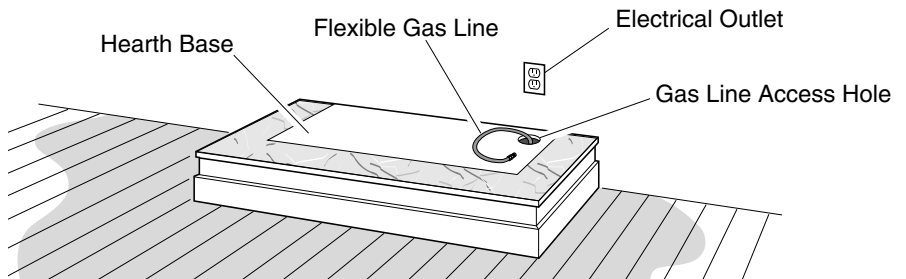

Figure 9 - Placing Hearth Base Accessory Against Wall
2. When installing blower, install a properly grounded, 120 volt three-prong electrical outlet at fireplace location if an outlet is not there. If possible, locate outlet so cabinet mantel will cover it when installed (see Figure 9).
4. Place hearth base accessory against wall at installation location. Cut an access hole in hearth top to run flexible gas line to fireplace (see Figure 9). Make sure to locate access hole so cabinet mantel will cover it when installed. *Note:* You can secure base to floor using wood screws. Countersink screw heads and putty over.